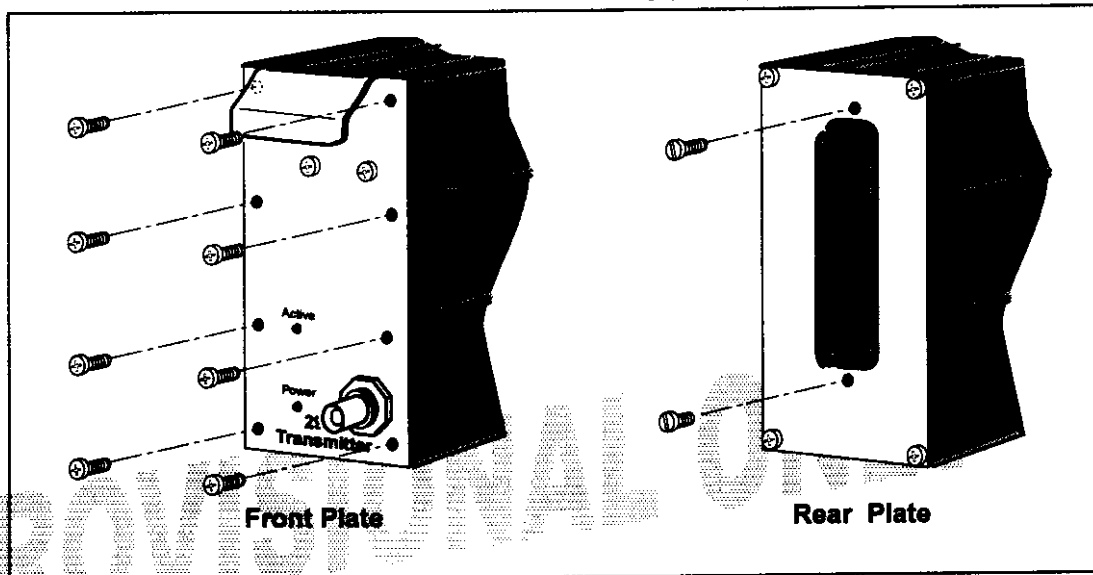

Figure 10.4: Module Face and Rear Plate Screws
3. In the module face plate, undo each of the eight screws along the face plate (see Figure 10.4). Put the screws in a safe place for refitting the PCB.
4. In the module rear plate, undo the two screws on either side of the connector that protrudes through the plate (see Figure 10.4). Put the screws in a safe place for refitting the PCB.
1. Refer to steps (1) to (5) of Section 10.4.2 for cover removal details.
4. In the module face plate, undo each of the eight screws along the face plate (see Figure 10.4). Put the screws in a safe place for refitting the PCB.
5. In the module rear plate, undo the two screws on either side of the connector that protrudes through the plate (see Figure 10.4). Put the screws in a safe place for refitting the PCB.